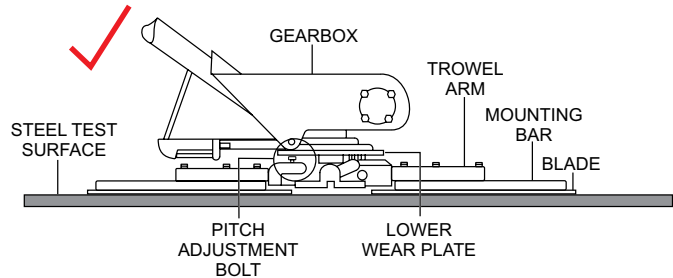

Figure 55. Correct Blade Pitch (Flat)
2. Pitch the blades as flat as possible. The pitch adjustment bolts (Figure 55) should all barely make contact (0.10 inch max. clearance) with the **lower wear plate** on the spider. All pitch alignment bolts should be spaced the same distance from the lower wear plate. If one is not making contact, adjustment will be necessary.